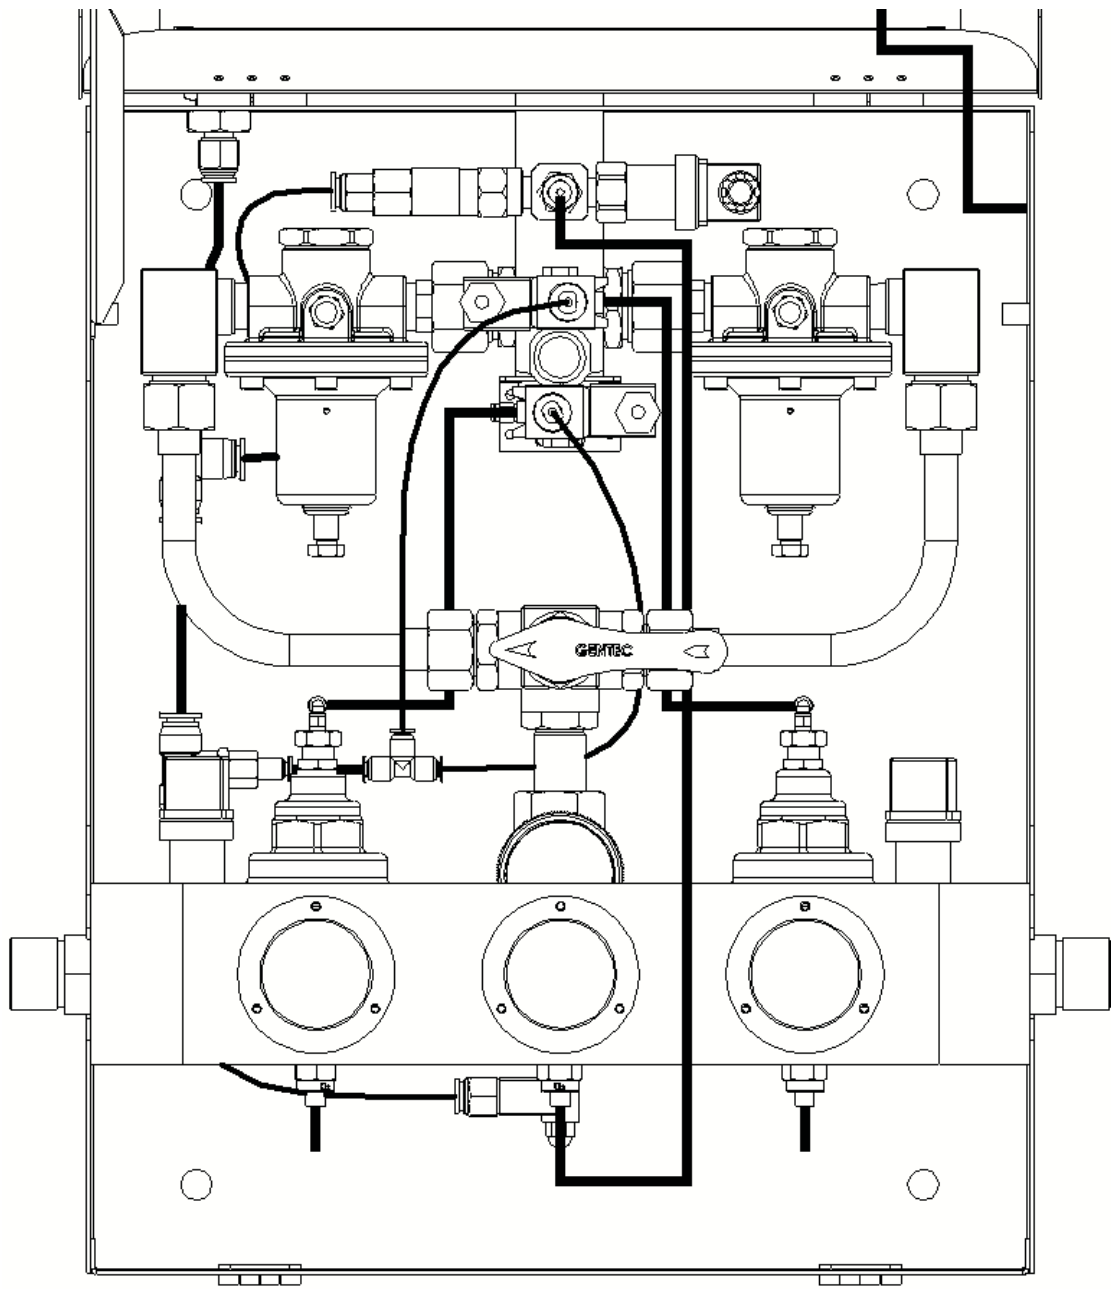

Figure 20
15. Turn 3-way ball valve indicator to point towards the left as shown in Figure 20. The gas flow should be directed towards the left side line regulator.
When shipped from factory, line regulators pressure has is pre-set and the 3-Way Ball Valve pointing to the right side. Refer to Figure 20.